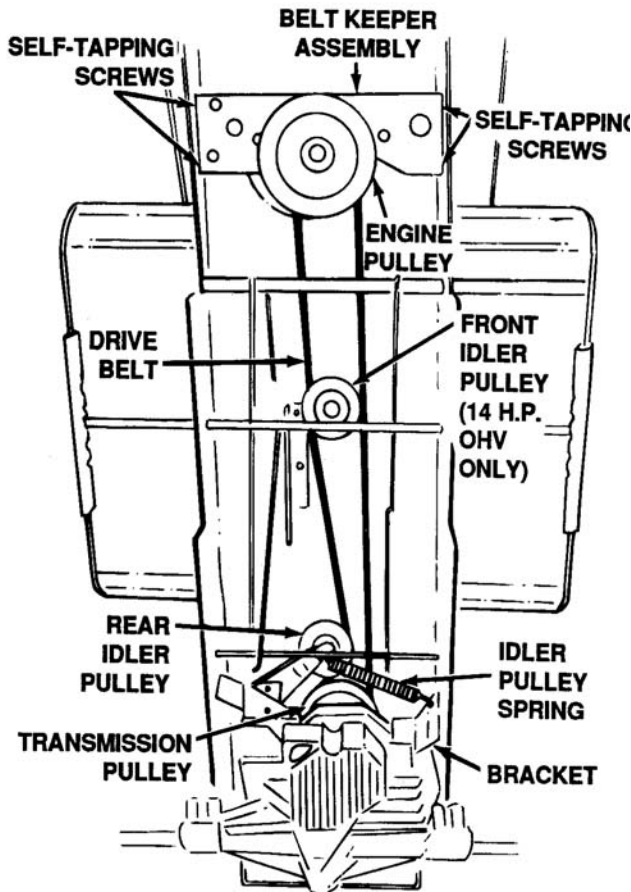

Figure 7-40. Drive Belt
13. Remove the block from under the frame and test the operation of the tractor. 12-1.2 Drive Belt (See Figure 7-40).